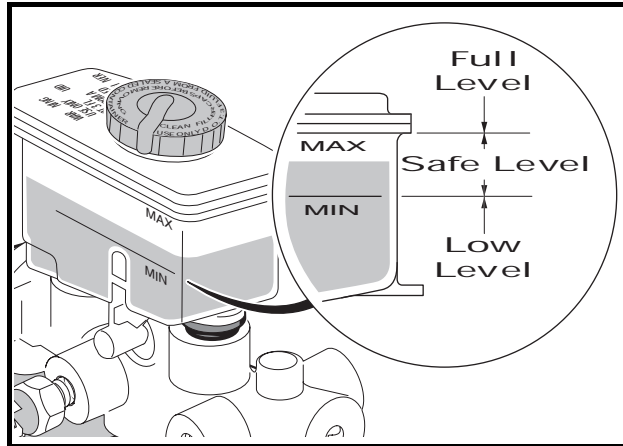

Figure 6-24 Master Cylinder Reservoir
- NOTE:** Do not allow the brake fluid in the master cylinder reservoir to drop below the “min” level mark at any time during the brake bleeding procedure (**Figure 6-24, Page 6-33**).
14. Fill the master cylinder reservoir to the “MAX” level with DOT 5 brake fluid (**Figure 6-24, Page 6-33**).